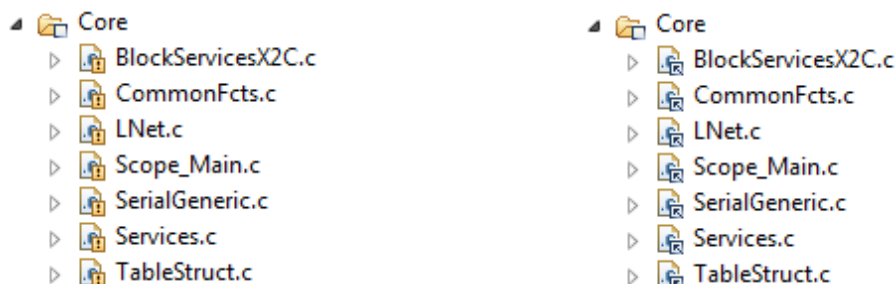

Figure 17: *Code Composer Studio* invalid (left) and valid (right) X2C root directory
3. In the *Code Composer Studio* file structure of the *Blinky* demo project there are two virtual folders *Blocks* and *Core*, which should be linked directly to the X2C directory. To ensure this go to **Project** → **Properties** drop down **Resource** and click **Linked Resources**. Double click on folder **X2C\_ROOT** and set the correct link to your X2C installation directory (<X2C\_ROOT>). After hitting **OK** two times there should not be any warning signs (like shown in Figure 17) at the icons for the linked files in the *Blocks* and *Core* folders.